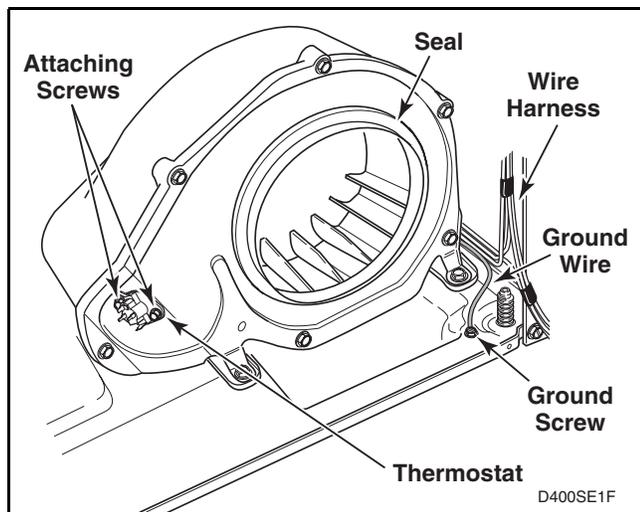
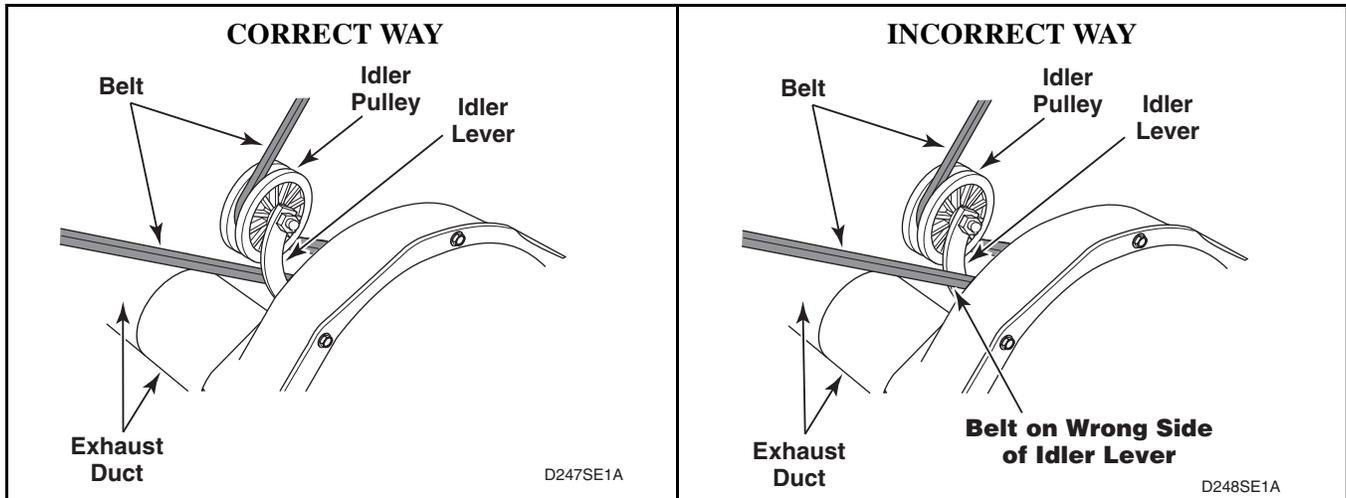

Figure 23
Figure 26
- Disconnect wires and remove thermostat attaching screws. Refer to *Figure 23*.
IMPORTANT: When reassembling, be sure seal on blower fan cover makes airtight seal on flange of duct. Refer to *Figure 23*. If the seal is installed improperly, the airflow through the exhaust system will be restricted which can adversely affect dryer performance.
IMPORTANT: When reassembling, be sure seal on blower fan cover makes airtight seal on flange of duct. Refer to *Figure 23*. If the seal is installed improperly, the airflow through the exhaust system will be restricted, which can adversely affect dryer performance.
- g. Remove cylinder belt from idler and motor pulleys. Refer to *Figure 26*.
IMPORTANT: When reinstalling motor and exhaust assembly, be sure wire harness on right side is clipped to motor mounting bracket and is routed along dryer base (between motor mounting bracket and right side of cabinet). Refer to *Figure 23*. Tab on rear of motor mounting bracket must be slid into slot in dryer base. Be sure the belt has been installed on the correct side of the idler lever. Refer to *Figure 26*.
- e. Disengage belt from motor and idler pulley. Refer to *Figure 26*.